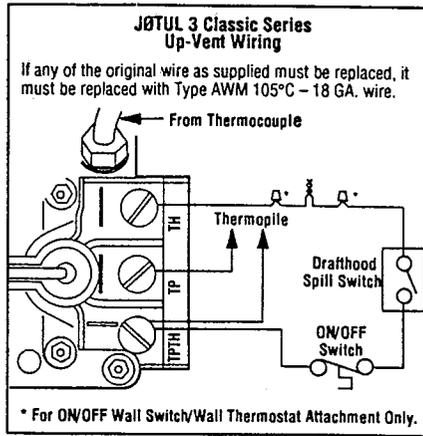

Figure 27
Step 4. Installing the Optional Remote Wall Switch or Wall Thermostat The standard JØTUL DV 3 system comes from the factory wired as shown in Figure 27. Select a convenient location for the remote wall switch or wall thermostat and connect the wiring to the appliance.
An optional wall mounted thermostat kit, part number 07-750003, can be installed along with the JØTUL 3 Classic Direct Vent. The wall mounted thermostat kit should be installed along with the appliance. Refer to Figure 27 and Step 4 for detailed installation instructions.